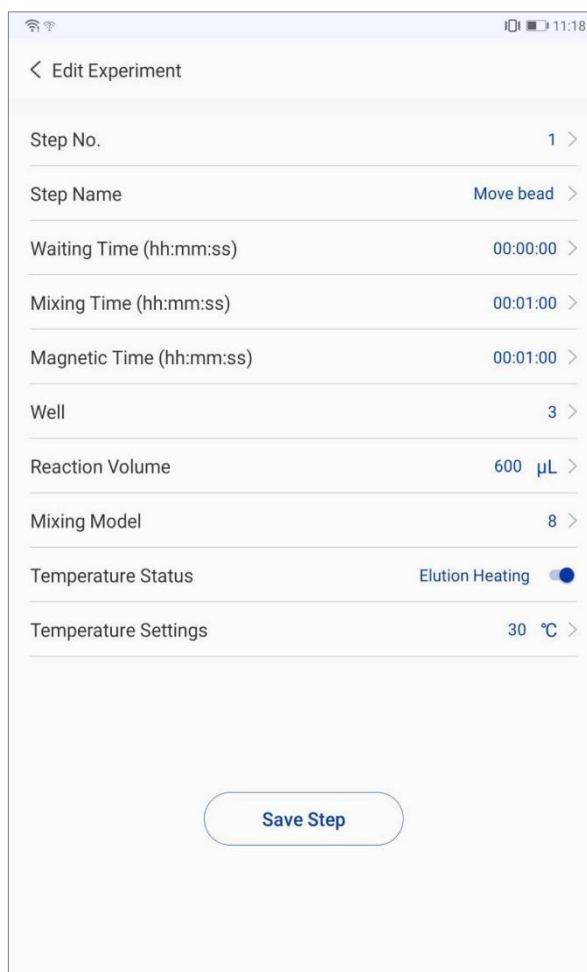

Figure 5-8. Experiment Interface - Edit Step Parameter
- **Edit Step**: click <  **Edit** > inside any step card to edit the step parameters, as shown in figure 5-8.
- After finish editing the step, user can click < **Save Step** > to save current step settings and return to previous interface, as shown in figure 5-8.